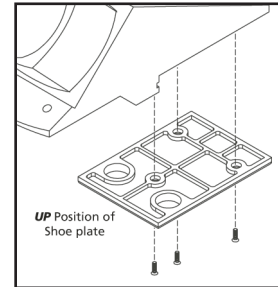

Fig. 2
11. FITTINGS Install a male (1/4" NPT) coupling on your Nailer which is free flowing and which release air pressure from your Nailer when disconnected from the air source (Fig. 2). Use couplings that relieve all pressure from your Nailer when it is disconnected from the power supply. Use hose connectors that shut off air supply from the compressor when your Nailer is disconnected.
3. Remove shoe plate; place new or alternate shoe. Make sure shoe is in the UP position when attaching. (Fig.2)